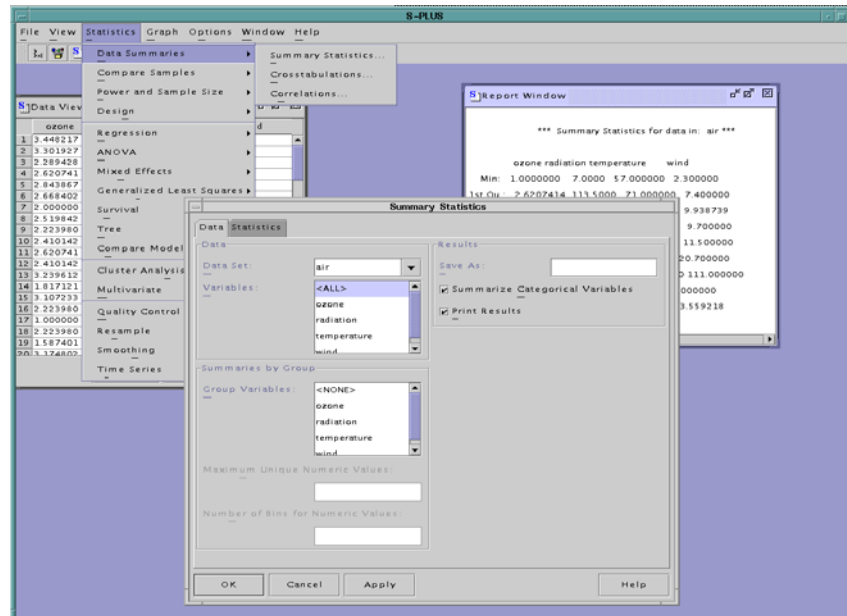

Figure 6.1: *Statistics-related menus and windows.*
Figure 6.1 displays many elements of the Spotfire S+ interface.
- **Statistics menu:** The **Statistics** menu gives you access to nearly all of the statistical procedures available in Spotfire S+. The procedures are logically grouped, with submenus that allow you to precisely specify the procedure you want to use. For example, in Figure 6.1 the menu tree for summary statistics is shown. It is selected by choosing **Statistics** ► **Data Summaries** ► **Summary Statistics**.
- **Statistics dialogs:** The open dialog in Figure 6.1 is entitled **Summary Statistics**, and is used to specify which data summaries to calculate.
- **Data Viewer:** The open window on the left in Figure 6.1 is a **Data** viewer, which you can use to see a data set in its entirety. The **Data** viewer is not a data editor, however, and you cannot use it to modify or create a new data set.
- **Report Window:** The **Report** window displays the results of statistical analyses. In Figure 6.1, a **Report** window shows the results of the chosen summary statistics. In addition, any error, warning, or informational message generated by a statistics dialog is printed in the **Report** window.